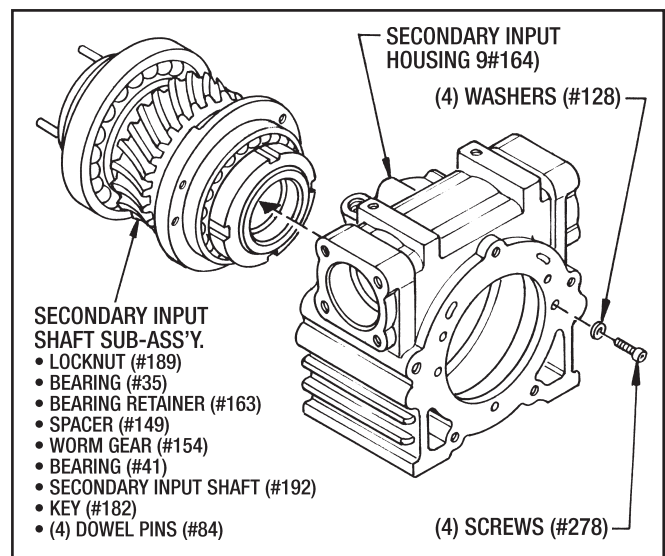
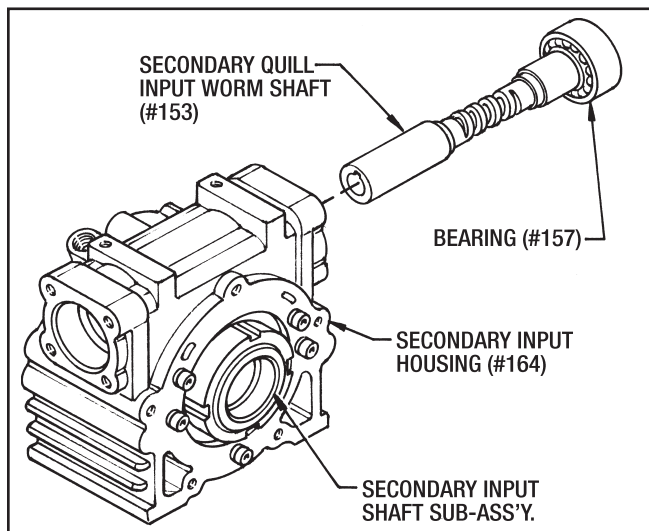

Figure 7.4 - Removing Secondary Input Shaft Sub-Assembly
Figure 7.5 - Removing Quill Worm Shaft
The whole Secondary Input Housing Subassembly can now be removed from the housing. (See Figure 7.4)
1. On the drive side, remove (4) Screws (#264) and (4) Washers (#175). Slide the C-Face Adapter (#155) off of the Quill Input Shaft (#153) being careful not to damage the lip of the Oil Seal (#158).
4. On the opposite side of the drive side remove (4) Screws (#198) and (4) Lockwashers (#175). Remove the Bearing Retainer (#156) and the Gasket (#161). Discard the gasket when removed.
6. Partially push the Worm Shaft (#153) out of the Housing (#164) until the bearing (#157) is freed from the bearing bore. The Worm Shaft (#153) can now be completely removed by just unthreading it from the Worm Gear (#154) as shown in Figure 7.5.
7. Unscrew and remove (5) Screws (#278) and (5) Lockwashers (#128). The Bearing Retainer (#163) can be loosened from the housing (#164).
8. Slide the Secondary Input Shaft Sub-Assembly out of the Housing (#164) as shown in Figure 7.4.
2. Place the Secondary Input Shaft Sub-Assembly into an Arbor Press as shown in Figure 7.5 and press all parts off of the Input Shaft.